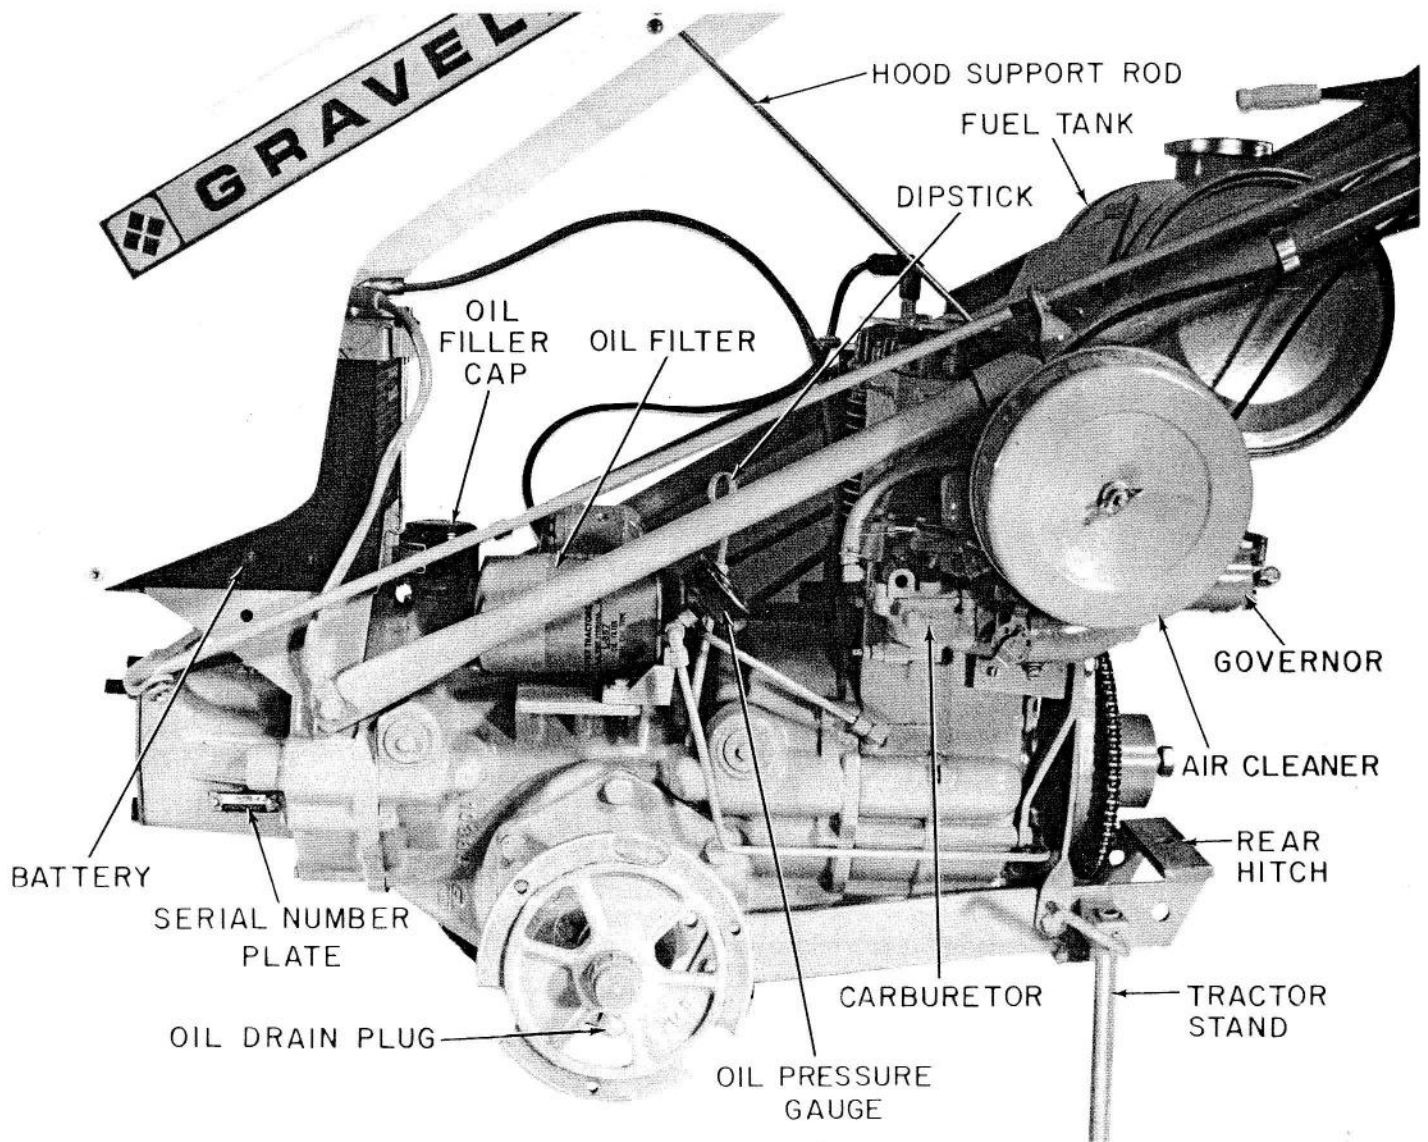

Figure 6
**Oil level**—Regularly check the oil level with the Dipstick (fig. 6) before starting. Be sure the tractor is level.
**Adding oil**—Add oil by removing the Oil Filler Cap (fig. 6). Stop when the oil reaches the FULL mark on the dipstick. (Allow time for the oil to drain down prior to checking. This prevents overfilling.)
**Oil level**—Regularly check the oil level with the Dipstick (Figure 6) before starting. Be sure the tractor is level.
**Adding oil**—Add oil by removing the Oil Filler Cap (Figure 6). Stop when the oil reaches the FULL mark on the dipstick. (Allow time for the oil to drain down prior to checking. This prevents overfilling.)
**Oil Changes**—During the break-in period, the first 40 hours of operation, change oil every 20 hours. Then change oil every 40 hours under normal conditions, oftener under dusty conditions and during periods of extended operation. Drain oil by removing the oil drain plug, the bottom bolt of the left tractor axle housing (Figure 6). Be sure the special sealing washer is in place when replacing the bolt.
**Oil Filter**—Change the oil filter every 80 hours or once a season whichever is sooner. The oil filter (Figure 6) is to be installed by hand. Be careful when installing a new filter not to overtighten the filter.